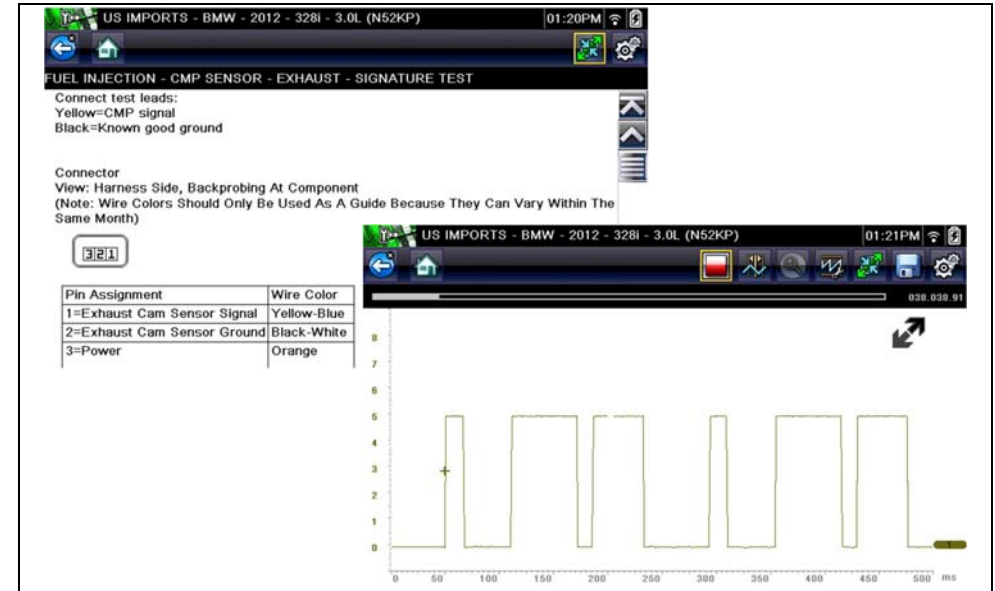

Figure 4-13 View Options
3. Tap on the Information Panel once to display the information panel in full screen view. Tap on it again to return to split view. The **Expand/Collapse** icon can also be used to toggle through split and full screen views (Figure 4-13).